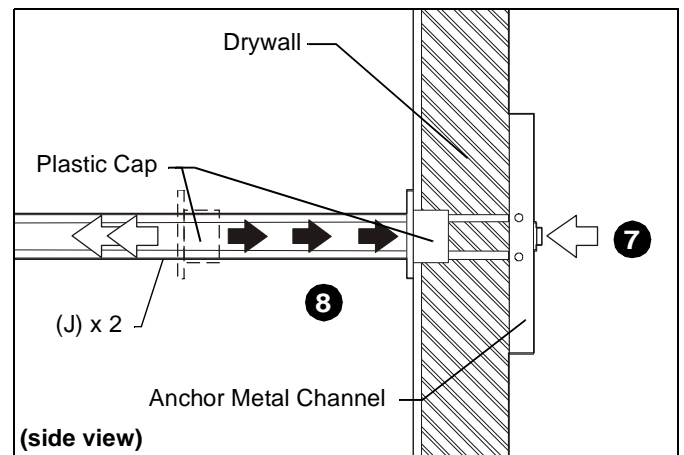

Figure 5
7. Holding plastic straps on anchor, pull anchor away from wall until channel rests flush behind wall making sure anchor channel is positioned vertically. (See Figure 5)
8. Slide plastic cap on anchor towards wall until flange of cap is flush with wall. (See Figure 5)